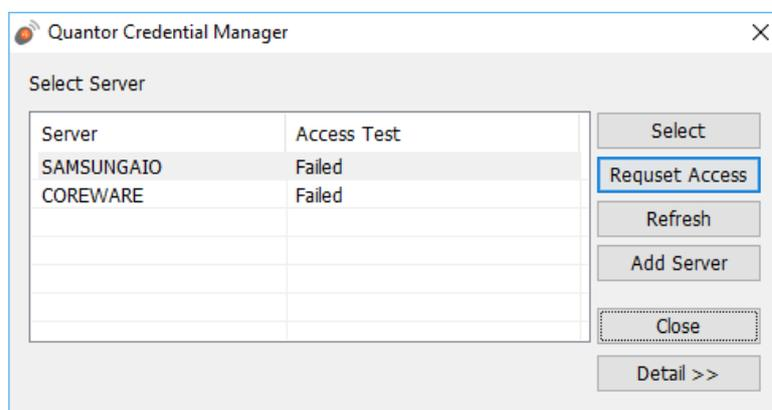

Figure 2.21 Request Access
- As shown in Figure 2.21, click the "Request Access" button.